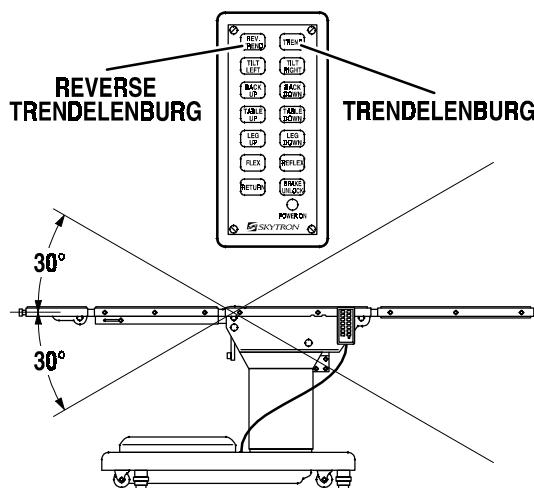

Figure 3-5. Trendelenburg Positioning
**c. Trendelenburg.** To place the surgical table in a trendelenburg (head down) position, press the TREND button (figure 3-5). Trendelenburg positioning of up to 30° may be obtained. To place the table in a reverse trendelenburg (head up) position, press the REV TREND button. Reverse Trendelenburg positioning of up to 30° may be obtained.